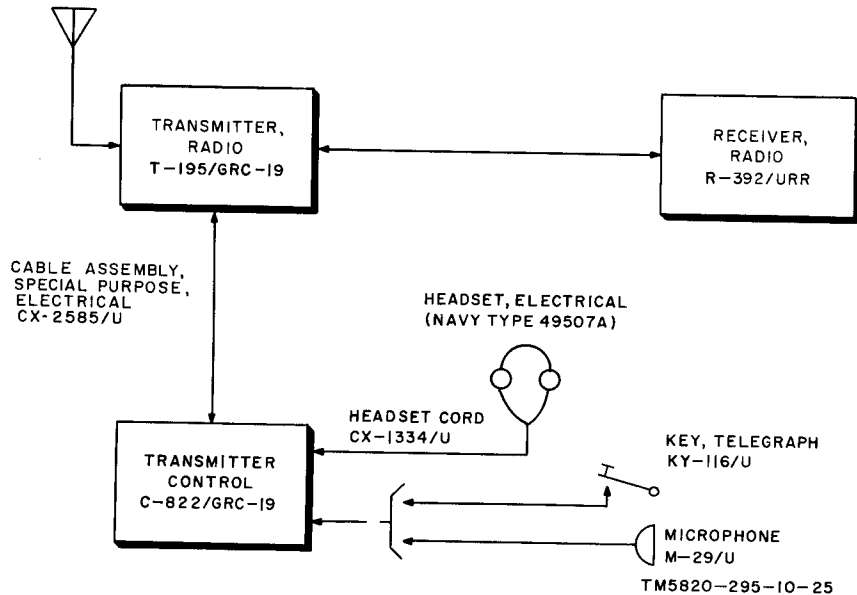

Figure 15. Radio Set AN/GRC-19, with Transmitter Control C-822/GRC-19 and Cable Assembly, Special Purpose, Electrical CX-2585/U, block diagram.
- (1) Remote control of Transmitter, Radio T-195(\*)/GRC-19 (fig. 15) at distances up to 75 feet is possible when